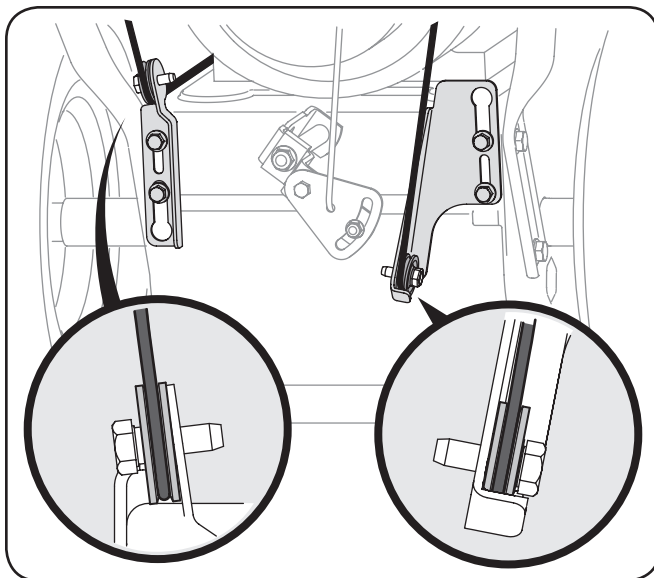
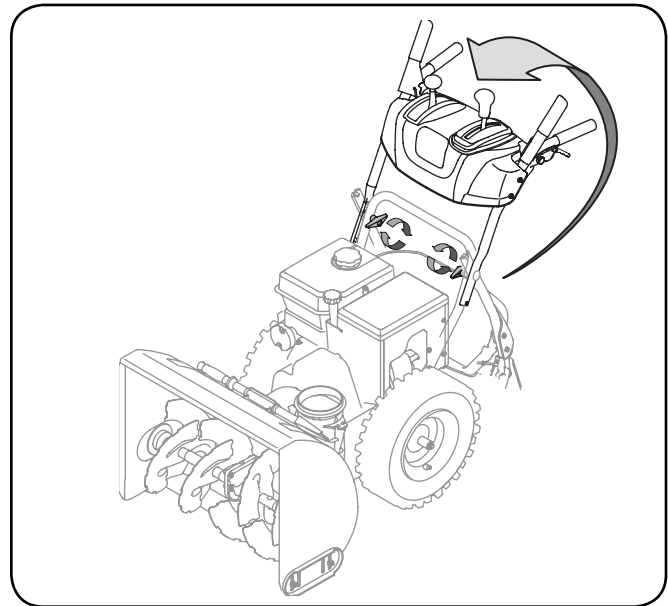

Fig. 3-1
Fig. 3-2
- Observe the lower rear area of the snow thrower to be sure both cables are aligned with roller guides. See Fig. 3-1. Pull up on the upper handle, align the upper handle with the lower handle. See Fig. 3-2.